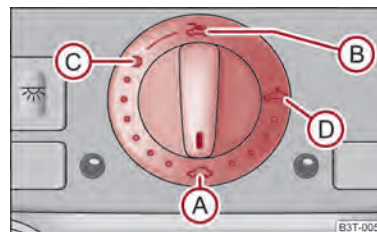

Fig. 29 Control dial for the power sliding/tilting roof
The sliding/tilting roof is operated by means of the control dial ⇒ fig. 29 and only functions when the ignition is switched on. The control dial has several positions. ▶
- Turn the switch to position  ⇒ fig. 29.
The sliding/tilting roof is fitted with a force limiter. If an obstacle (e.g. ice) prevents closing, the sliding/tilting roof stops and opens completely. You can close the sliding/tilting roof completely without force limiter by pressing the switch to the  position ⇒ fig. 29 at the front for as long as it takes for the sliding/tilting roof to close completely ⇒ .
It is necessary after each emergency operation to move the sliding/tilting roof into the basic position. Here you have to turn the control dial forward to the switch position **A** ⇒ fig. 29 and press for about 10 seconds.